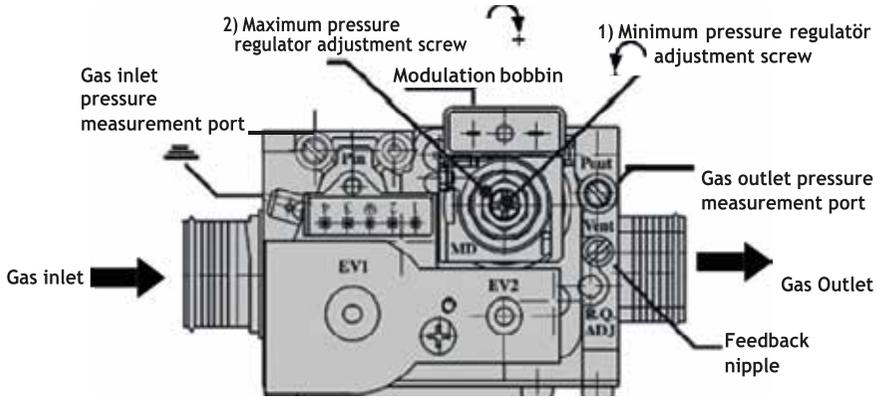

Figure 24
- U manometer is connected to gas outlet pressure (ø9 mm) measurement port (Figure 24).
- After removing the protection cap of maximum pressure regulator's adjustment screw –shown by no 2 in Figure 24-, the gas flow towards the burner increases by slowly turning it clockwise, and otherwise it decreases.
- Gas flow decreases by turning the minimum pressure regulator's adjustment screw –shown by no 1 in Figure 24- clockwise, and otherwise it increases.